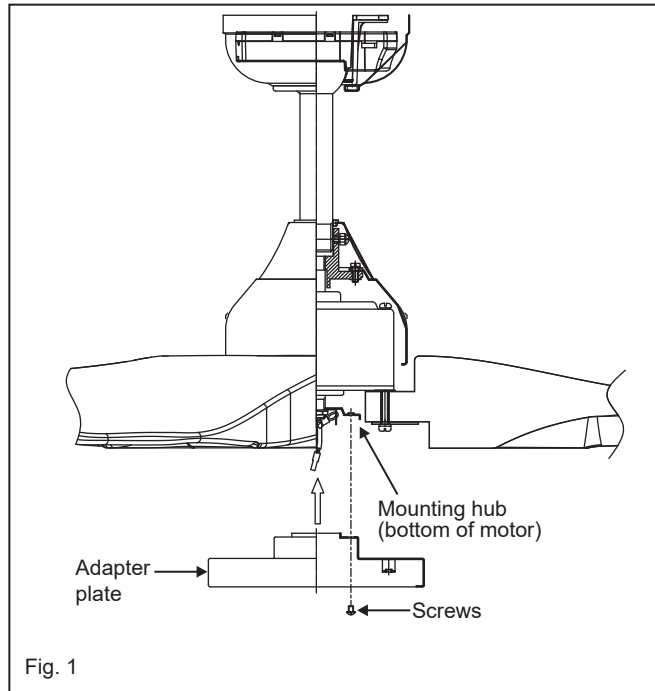

Fig. 1
- 1 Remove one of the three screws on the mounting hub located on the fan motor. Loosen the other 2 screws. (Do not remove) (Fig. 1)